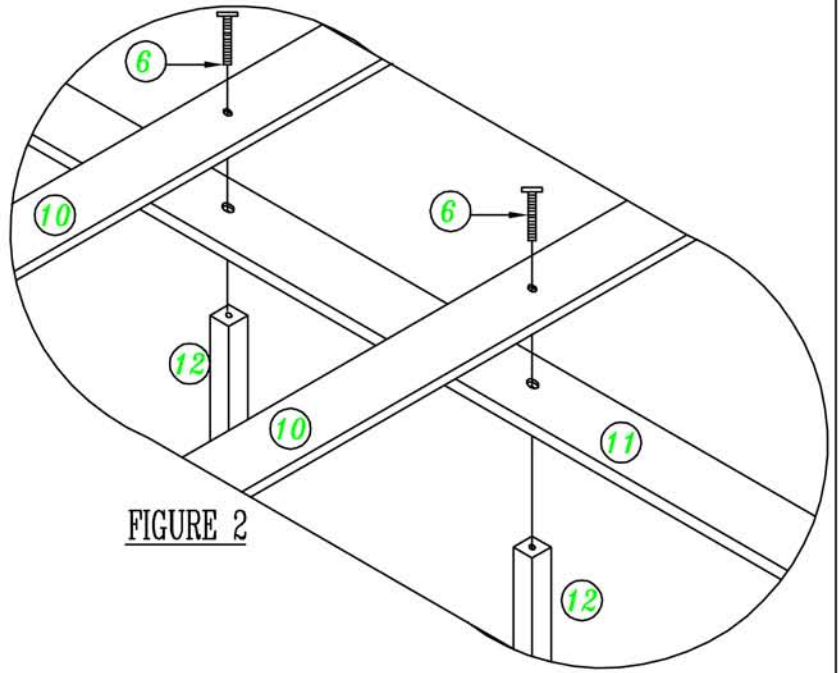

FIGURE 2
- Align support legs (12) with holes of center support rail (11) and cross rails (10). See Figure 2
- Secure legs to cross rails and center rail with screws (6).